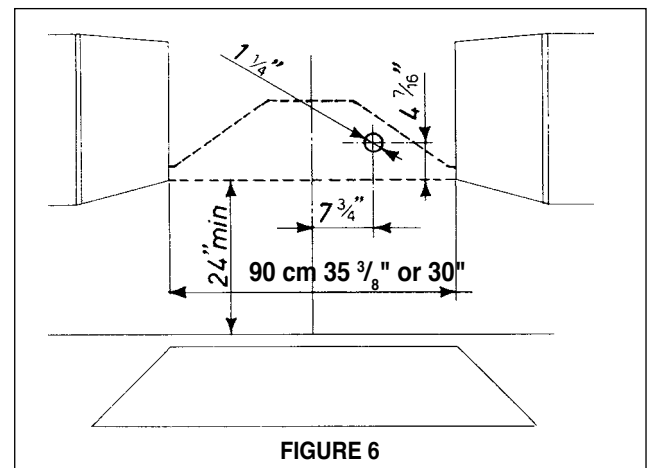

FIGURE 6
6. Determine the proper location for the Power Supply Cable as indicated in **FIGURE 6**. Use a 1 1/4" Drill Bit to make this hole. Run the Power Supply Cable. Use caulking to seal around the hole. **DO NOT** turn on the power until installation is complete. For remote blowers, a separate wiring cable is required. **DO NOT WIRE THE REMOTE BLOWER INTO THE FIELD WIRING HOUSING OR CONNECT WITH THE POWER SUPPLY CABLE.**